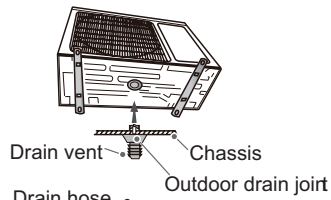

Fig. 19
- (1) Connect the outdoor drain joint into the hole on the chassis.
- (2) Connect the drain hose into the drain vent.
- (As show in Fig.19)